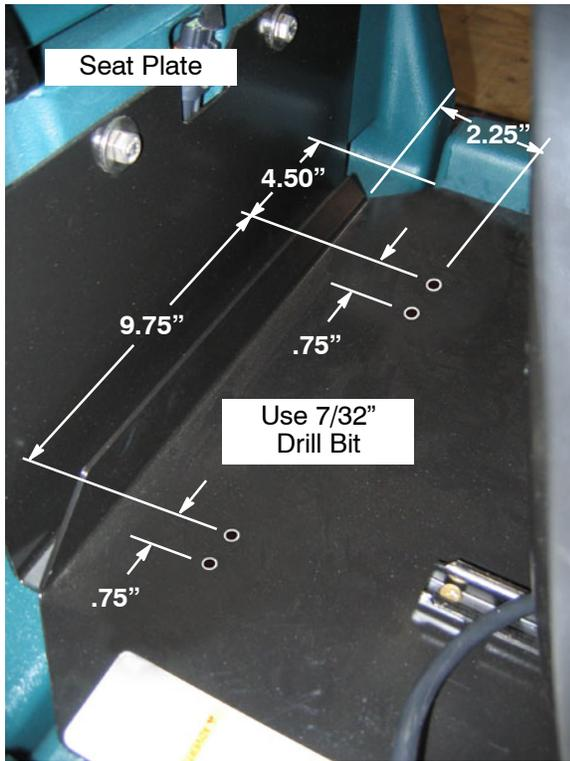

Fig. 12
- Mount the cord hooks to the seat plate as shown, using hardware provided. Coil power cord around hooks as shown (Figure 11). See Figure 12 if seat plate is not equipped with pre-drilled holes to mount hooks.